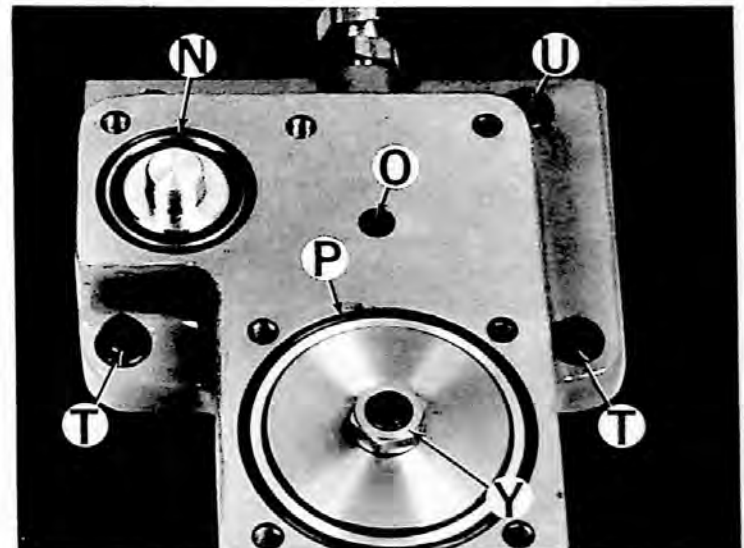
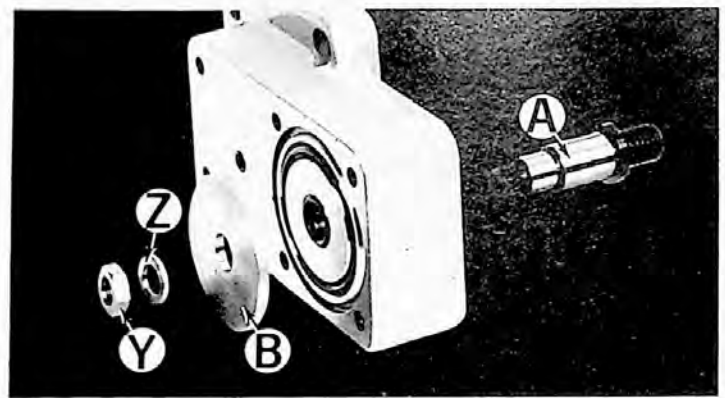
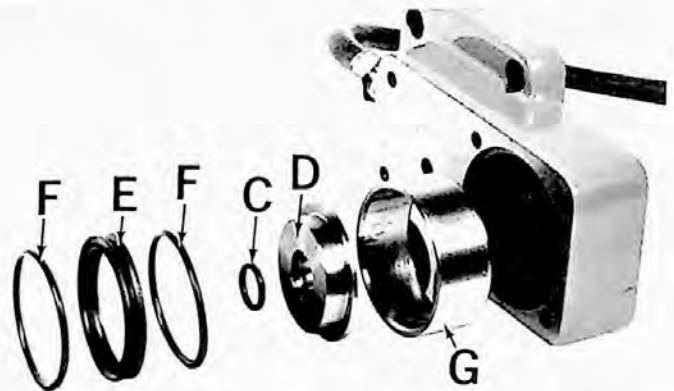

Figure 16 — Cylinder Housing with Cover Removed
Figure 19 — Piston for Slide Travel Adjusting Screw
Figure 20 — Cylinder Housing and Components
2. Remove O-rings "N", "O", and "P", Figure 16.
4. Remove two screws "T", Figure 16, and two screws "U".
6. Remove nut "Y", Figure 16, washer "Z", Figure 19, piston rod "A", piston plate "B". Remove O-ring "C", Figure 20, piston body "D", seal "E" and two O-rings "F". Remove cylinder liner "G".
2. Replace cylinder liner "G", Figure 20, (chamfered side down).
4. Replace piston rod "A", Figure 19, O-ring "C", piston plate "B", washer "Z" and nut "Y".
6. Replace two screws "T", Figure 16, and two screws "U". **NOTE:** Screws "T" are  $\frac{1}{8}$ " longer than screws "U".
8. Replace O-rings "N", "O", and "P", Figure 16.
2. Remove two screws "T", Figure 16, and two screws "U".